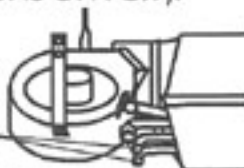

FIGURE 8
- CONNECT A 24" x 5/8" HEATER HOSE TO EACH LINE ON THE EVAPORATOR. SEE FIGURE 8.